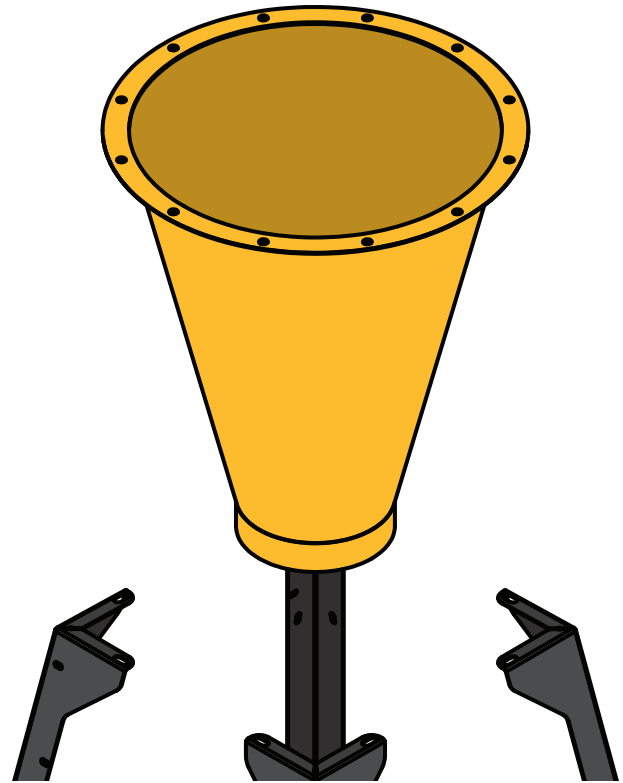
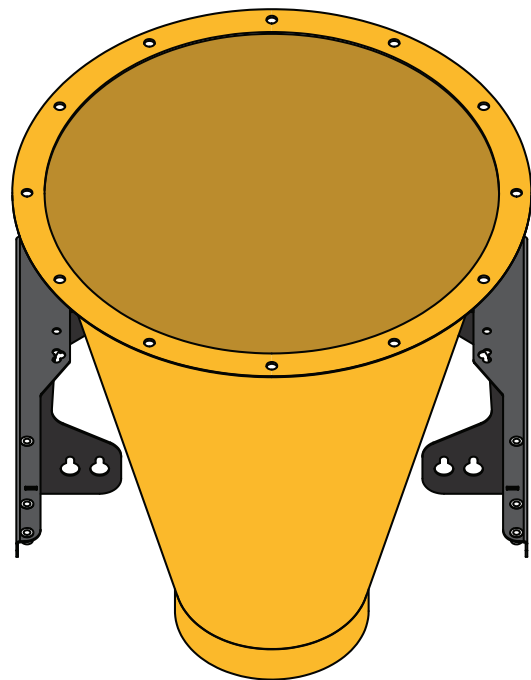

FIG. 3a
FIG. 3b
Lift the Cone (D) onto the supplied support, making sure to align the Cone's flange holes with those on the Stand [FIG 3a] or Wall Bracket [FIG 3b].